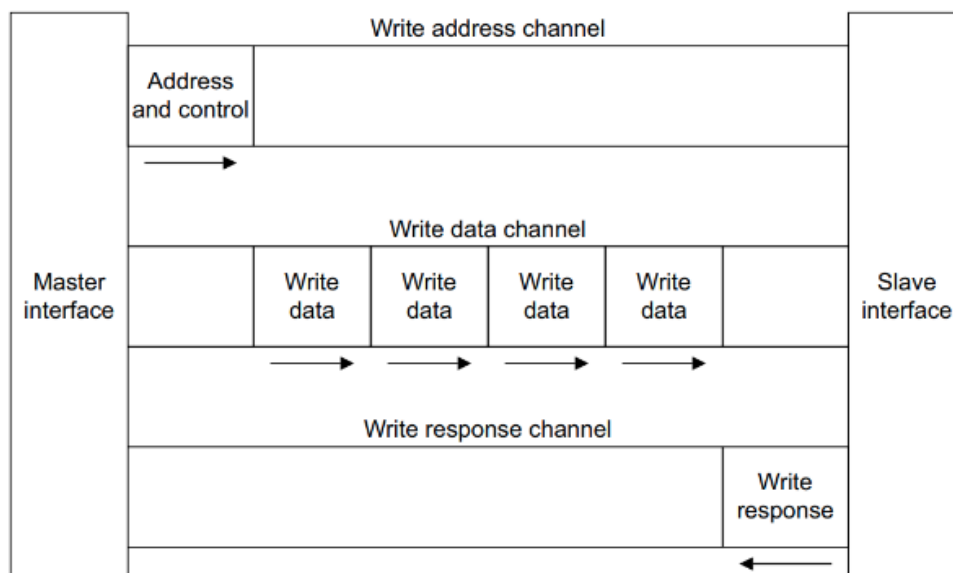

Figure 23. Channel architecture of writes
Figure 23 shows how a write transaction uses the write address, write data, and write response channels. Similar to a read, the master device sends the address and control bits. Then the master device sends the data on the write data channel and the slave device sends a response.
- A write data channel to transfer data from the master to the slave (Figure 23). In a write transaction, the slave uses the write response channel to signal the completion of the transfer to the master (Figure 23).